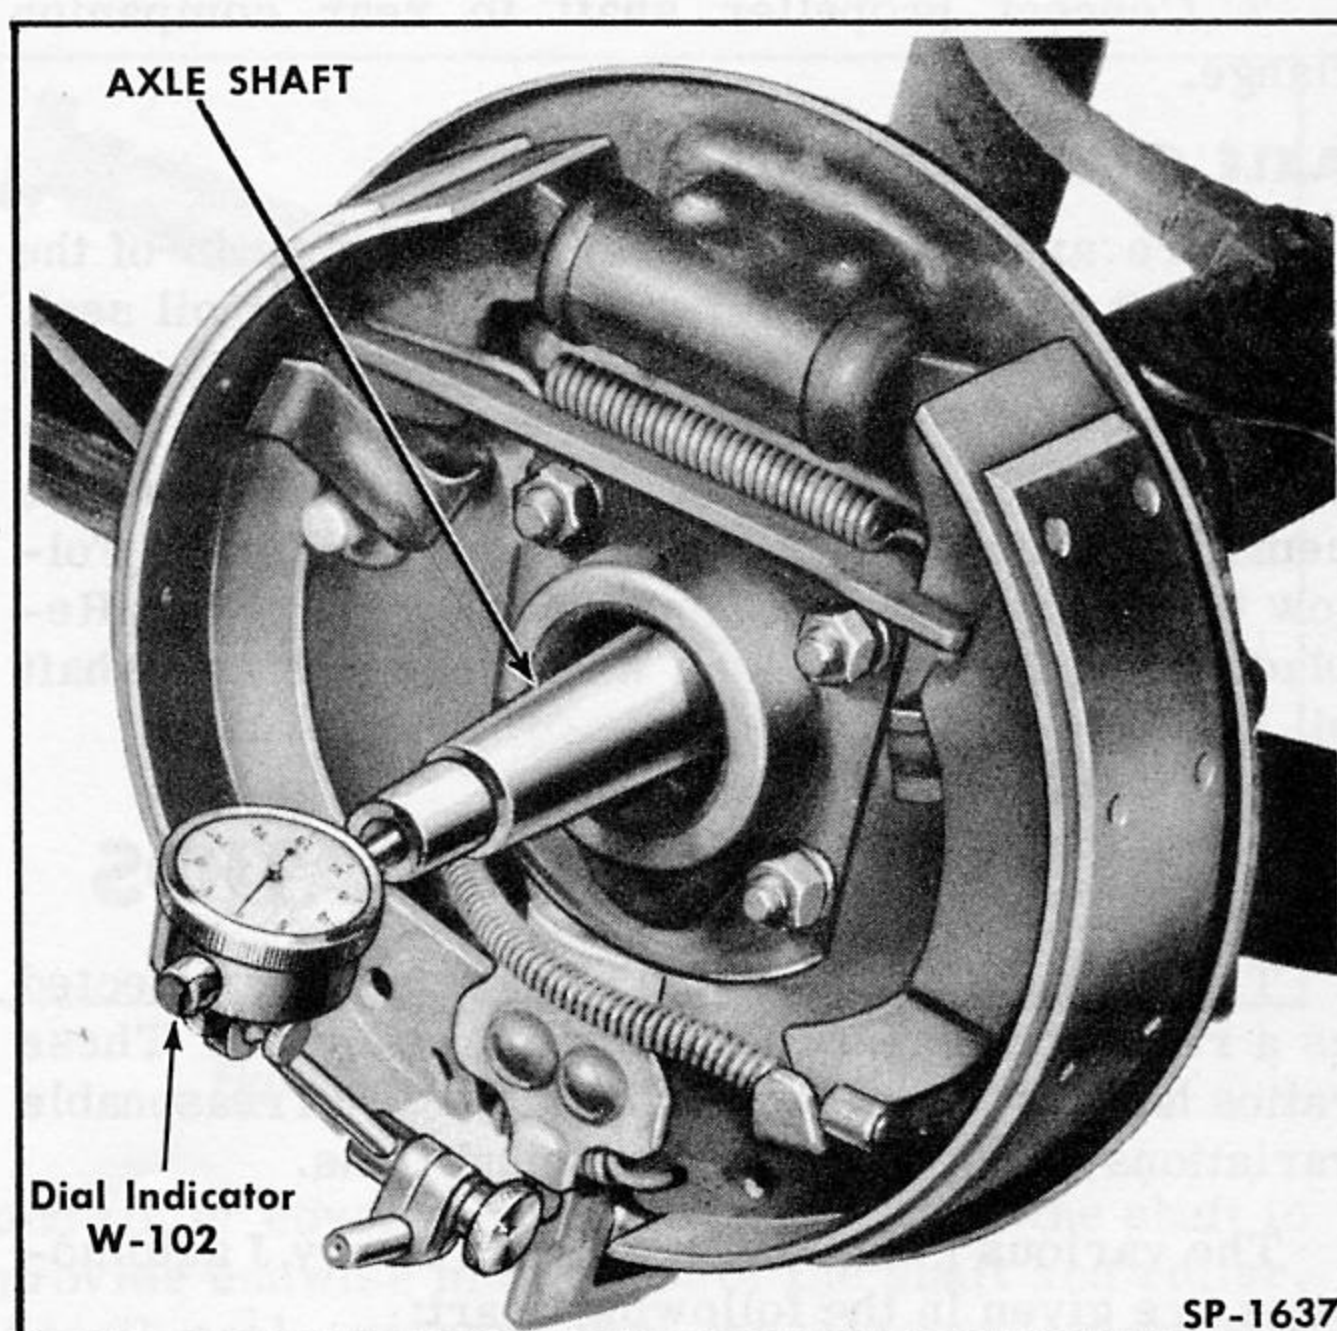

Fig. 189—Checking Axle Shaft End-Play
5. Mount Dial Indicator W-102 (part of Gauge Set W-99) on right-hand brake support plate with indicator button resting on end of axle shaft (Fig. 189).